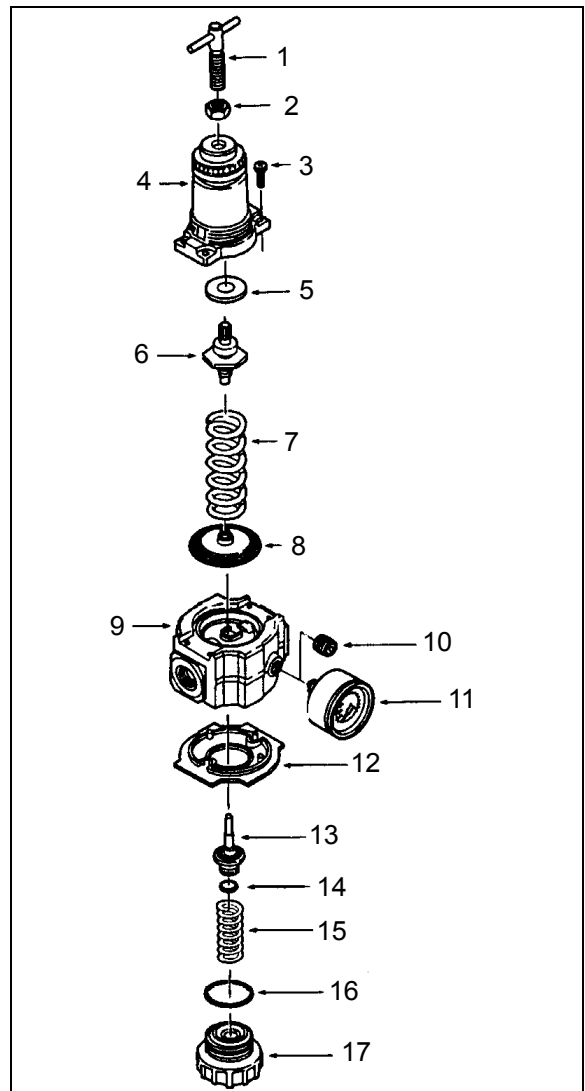

FIGURE 55: REGULATING VALVE
1. Before turning on system air pressure, release jam nut (2, Figure 55) then turn regulator adjustment counterclockwise until load is removed from the regulating spring.
5. Tighten jam nut (2, Figure 55) to lock pressure setting.
1. Shut off inlet pressure and reduce pressure in inlet and outlet lines to zero. Turn regulator adjustment (1, Figure 55) counterclockwise until all load is removed from regulating spring. Regulator can be disassembled without removal from air line.
1. Lubricate O-ring (14 and 16, Figure 55), valve stem (13, Figure 55), tip of adjusting screw (1, Figure 55), and the outer circumference and both sides of the thrust washer (9, Figure 55) with a light coat of good quality O-ring grease.